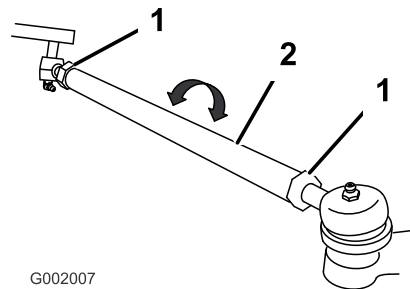

Figure 35
5. If the measurement does not fall within the specified range, loosen the jam nuts at both ends of the tie rods (Figure 35).